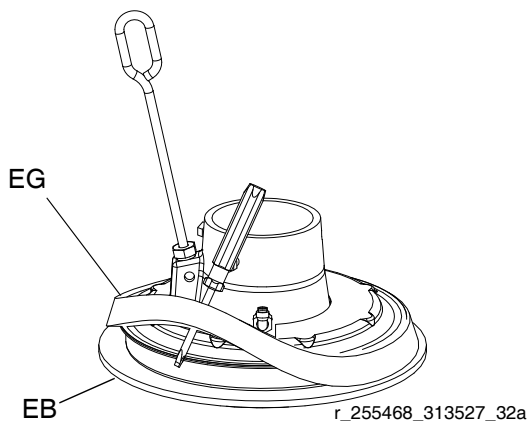

FIG. 13: Installing Spacer
2. *Working from the top*, use screwdriver to position spacer (EG) between flange and wipers (EB). See FIG. 13.